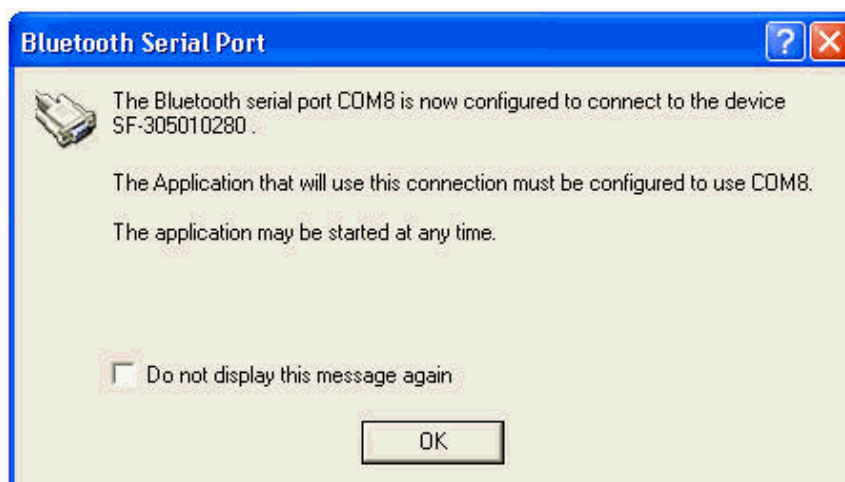

Figure 45: Bluetooth Virtual COM Port Connection Confirmed
- Double-click the Bluetooth Serial Port icon shown in Figure 44 to display the *Bluetooth Serial Port* dialog box, which confirms the configured COM port (see Figure 45).
14. Select the appropriate COM Port from the dropdown list (refer to Figure 45 above).